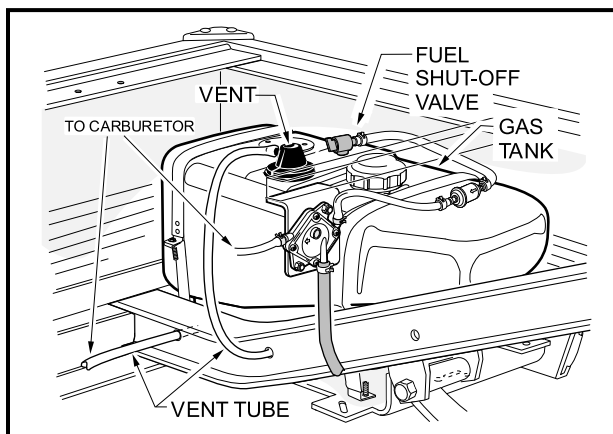

Figure 21 Fuel Tank
- IF THE VEHICLE HAS AN ALL-WEATHER ENCLOSURE INSTALLED, THE GAS TANK MUST BE PROPERLY VENTED AS SHOWN (FIGURE 21, PAGE 32).